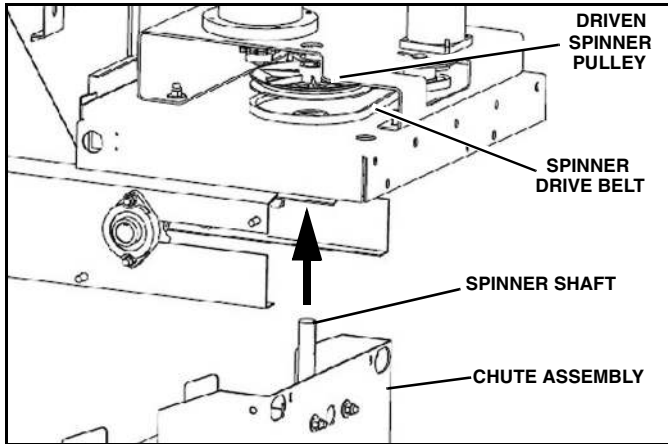

Figure 1-2
1. Place spinner drive belt between the motor mount and motor plate, and route it around the spinner motor pulley. Place the spinner drive pulley in its approximate operating position and allow it to rest on the drive belt. (See Figure 1-2).